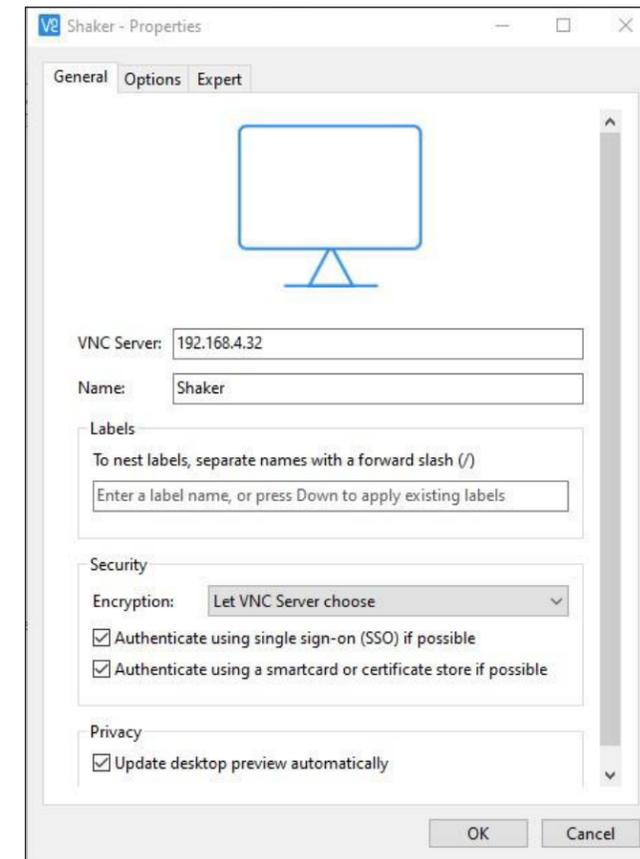

Figure 74. Enter IP address and name
6. Enter the shaker's IP address in the **VNC Server field** to complete the login setup (Figure 74).